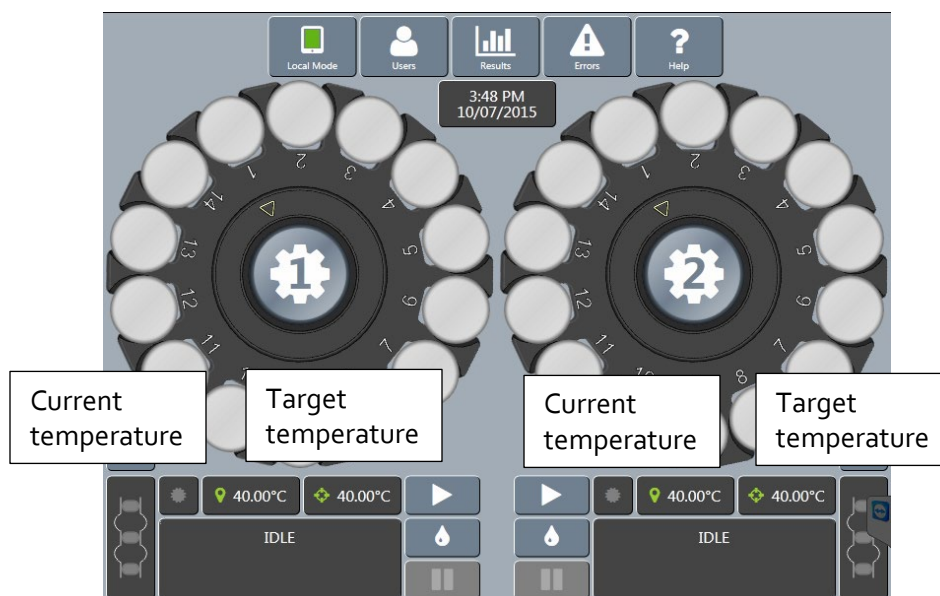

Figure 7 — Main Screen
1. From the main screen, see Figure 7, click the target temperature button  20.00°C for the appropriate bath. The temperature settings screen opens.